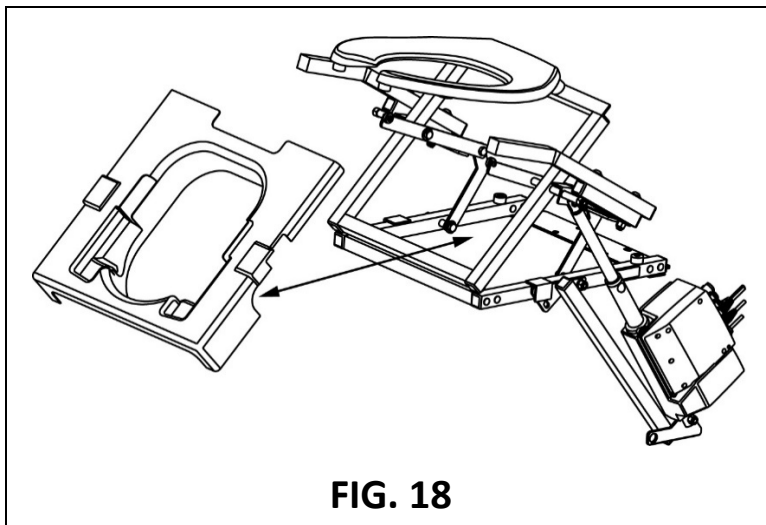

FIG. 18
- 8.3.2 Remove the plastic shield (FIG. 18) by grabbing it from the front and lifting upward, then pulling forward until the shield slides out of the TILT.
- 8.4.3 Insert the plastic shield (FIG. 18) by aligning cutouts over the support rollers.